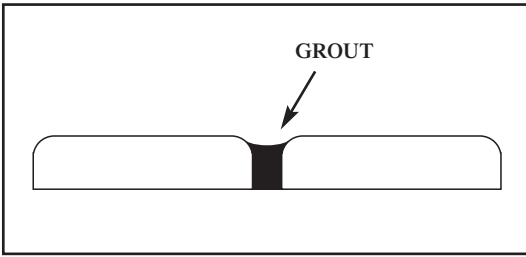

Fig. 10 - The finished grout line width is wider than the space between the tiles.
- The desired grout line width should be determined prior to starting the flooring installation. It is important to understand that the finished grout line will be 1/16" to 3/32" wider than the space between the tiles, since the grout will extend onto part of the radius along the top edge of the tile (Fig. 10).